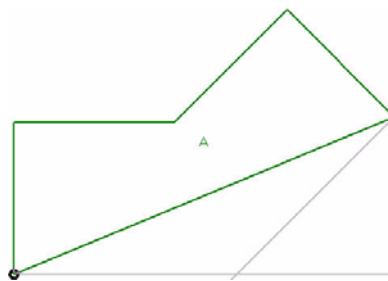

Figure 6-3 Roof A with two angle help lines
- The roof plan should like Figure 6-3.